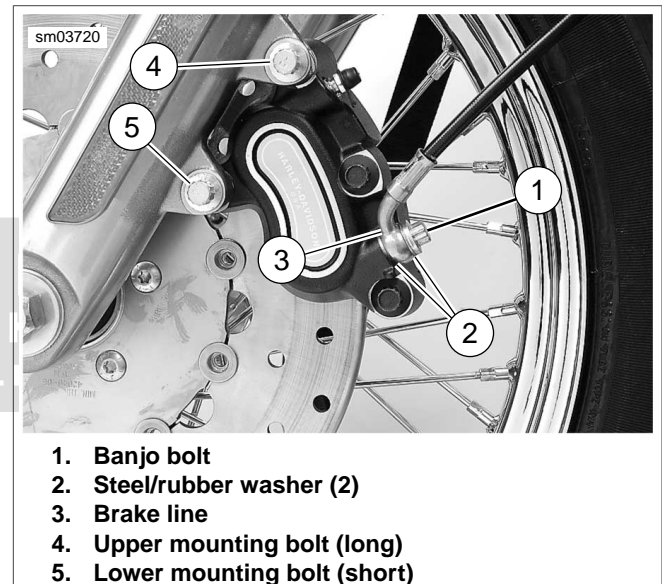

Figure 2-73. Front Caliper
1. See Figure 2-73. Attach caliper to fork leg.
- b. Loosely install upper mounting bolt (4) (metric) into top hole on fork leg.
- c. Install lower mounting bolt (5) (metric) into bottom hole on fork leg. Tighten bottom mounting bolt to 28-38 **ft-lbs** (38.0-51.5 Nm).